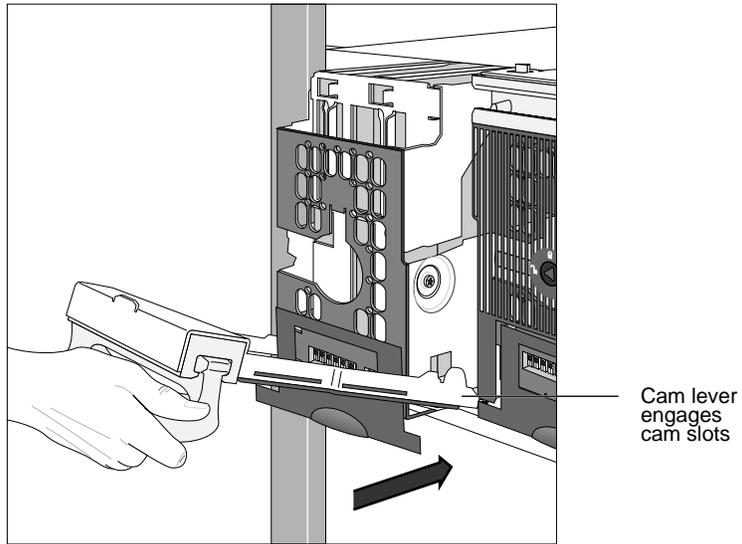

Figure 38. Closing the HDDA drive drawer
4. Slide the drawer back into the slot until it is about 3/4-inch from the HDDA chassis, as shown in Figure 38.